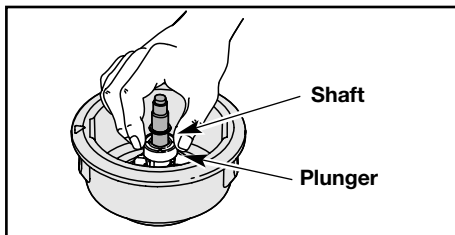

Fig. 22
4. Clean the shaft and the inner surface of the outer spool. To clean the shaft underneath the plunger, press down on the plunger (Fig. 22). Remove any dirt and/or debris from the shaft.